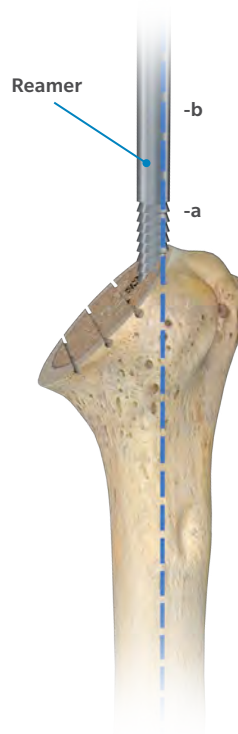

Figure 18
- Begin insertion of the Reamer just under the highest point of the resection, directly medial to the bicipital tendon (Figure 18), inline with the shaft axis.
ⓘ **Note:** The depth of penetration is defined by the uppermost tooth (Figure 18, marking a).
ⓘ **Note:** Care should be taken to ensure that the uppermost tooth of the Reamer is fully inserted into the medullary cavity marking (Figure 18, marking a). If a Revision Stem is used, the additional marking (Figure 18, marking b) is used as reference.